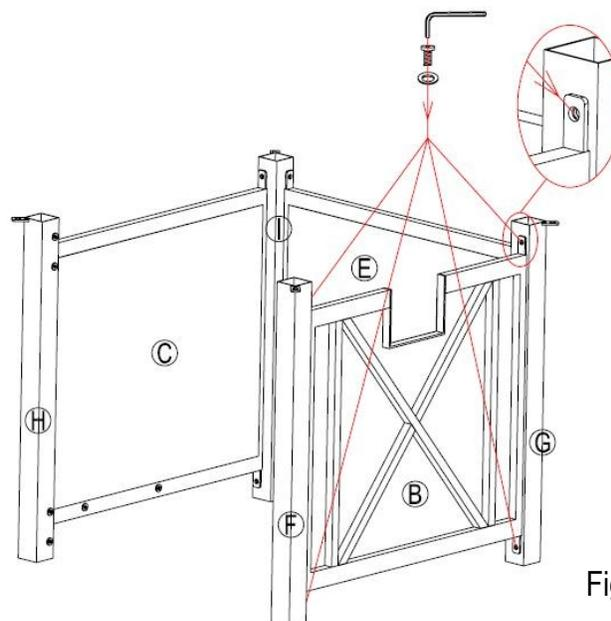

Figure 3
3. Attach the Right Panel (B) to Front-Right Leg (F) and Back-Right leg (G) with Bolt (AA) and Washer (BB) by using the Hex Screw Driver (CC), (see Figure 3).